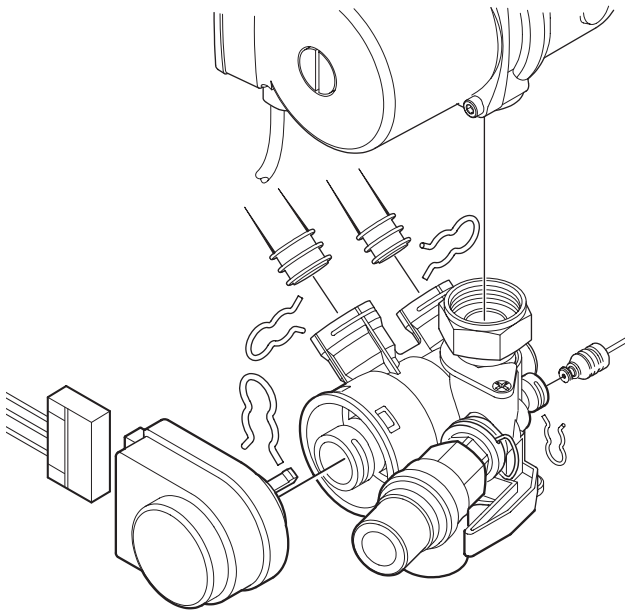

Fig. 62
- ▶ Unplug connector from 3-way valve motor. Refer to fig. 62.
- ▶ Disconnect the capillary head from the rear of the diverter valve by withdrawing the clip and pulling out the head. Refer to fig. 62.